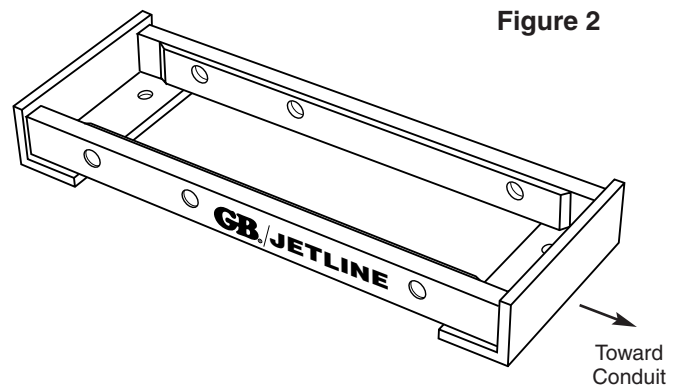

Figure 2
1. Position the CP80 Floor Mount in the location desired. Be sure the narrow end of the frame is facing toward the conduit. See figure 2.